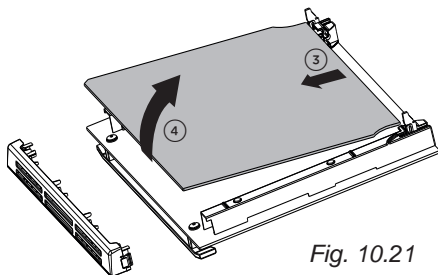

Fig. 10.21
- Gently lift and pull out the inner pane of glass by releasing it from the bottom retainers. Do not angle the pane too much as you may damage the glass (fig. 10.21).